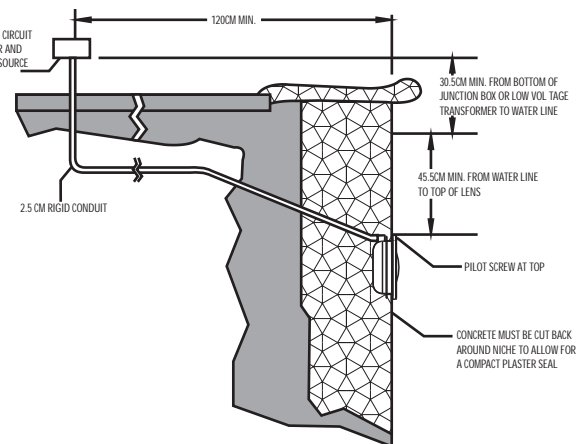

Figure 1.
● Preparatory steps which must be completed by the electrician before light is installed, see Figure 1.
- a) The junction box, or the low voltage transformer for 12 volt Underwater Light model is to be located at least 120CM from the edge of the pool, see Figure 1.
- b) The mounting bracket must be properly installed so that the top edge of the Underwater Light lens is at least 45CM below the surface of the water in the pool, see Figure 1.
- 1) Locate position on a vertical wall where light is to be installed. The top of the light lens must be 45CM below normal water level, see Figure 1.